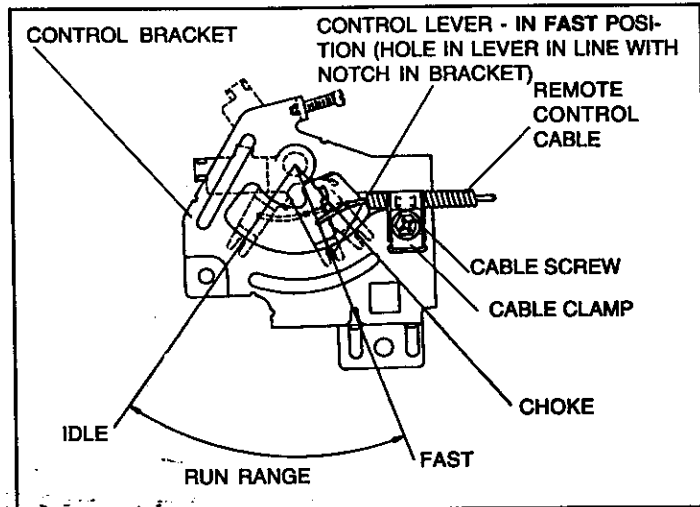

Figure 6
### ② REMOTE CONTROL (see Figure 6):